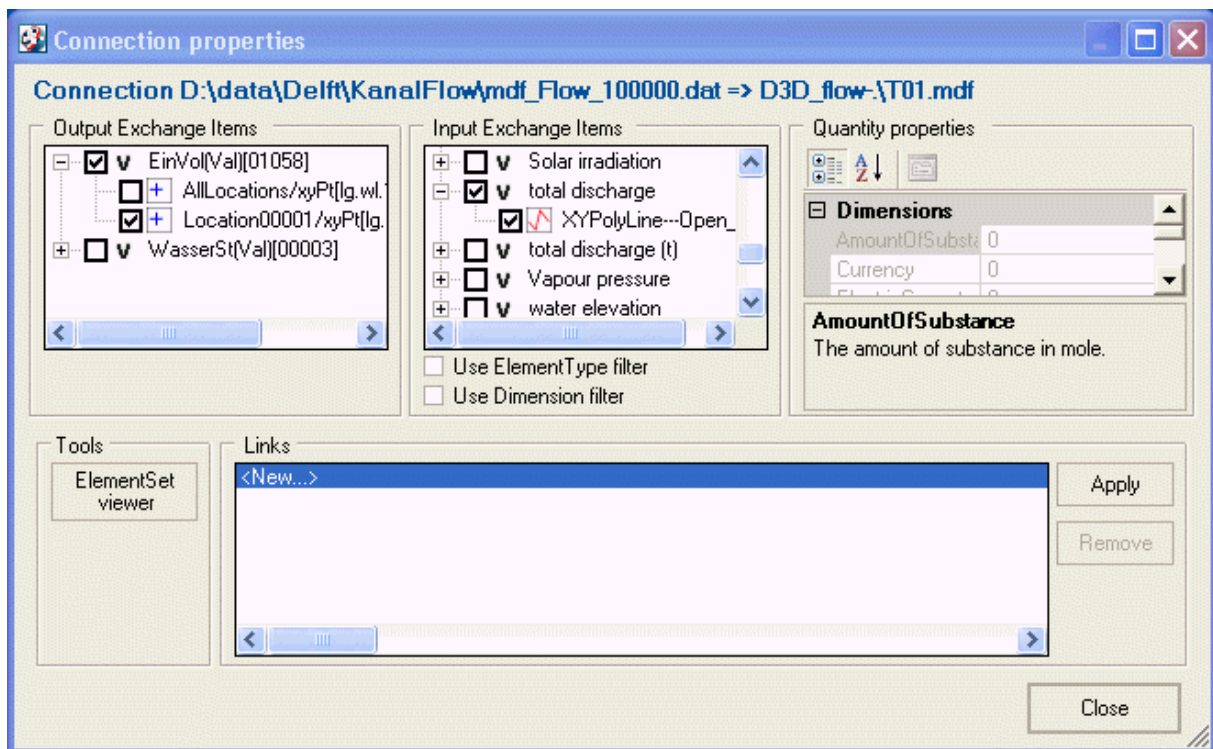

Fig. 14: Adding a link by clicking on ExchangeItems and the Apply button
3. In the Input Exchange Items box, expand the required input quantity and click on the ElementSet that is to receive the data (Fig. 14).
The following tables recommend Quantity combinations. The Quantity IDs of the second and third column can be found in the Connection Properties window. The user can click at the Quantities and select the preferred ElementSets (Fig. 14). If an expected Delft3D Quantity is not available you will have to enable the Quantity in the Delft3D-GUI (first column of tables).